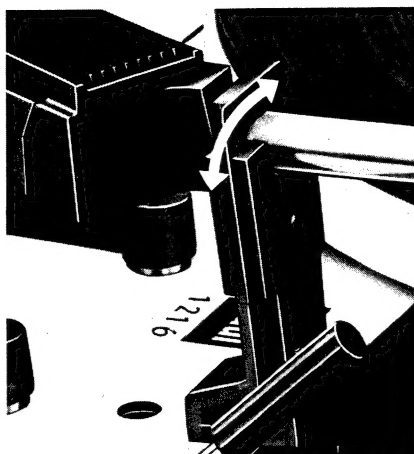

Fig. 7
Select the appropriate turntable speed ②, set the record size selector ⑬ to 7", 10" or 12" (17, 25 or 30 cm), depending on the size of the record you want to play, and unlock the tonearm (Fig. 7).
Note: After a single record has played, or after the last record of a stack has played, the tonearm will return automatically to its rest and the motor will shut off. It is advisable then to lock the tonearm on its rest (Fig. 7).